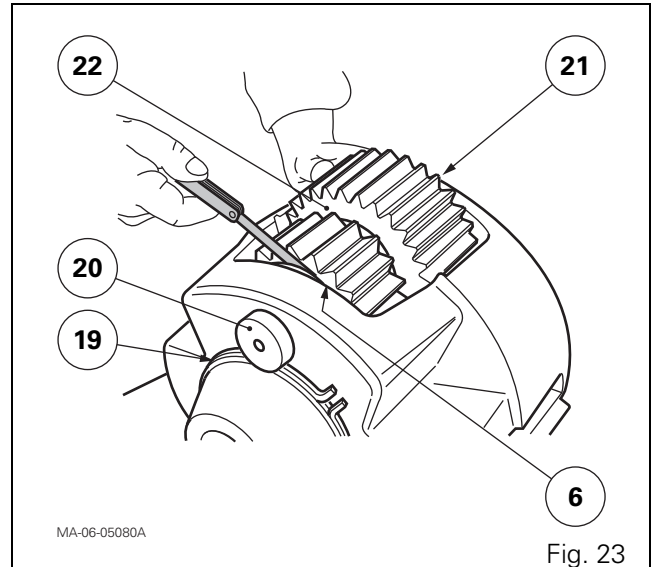
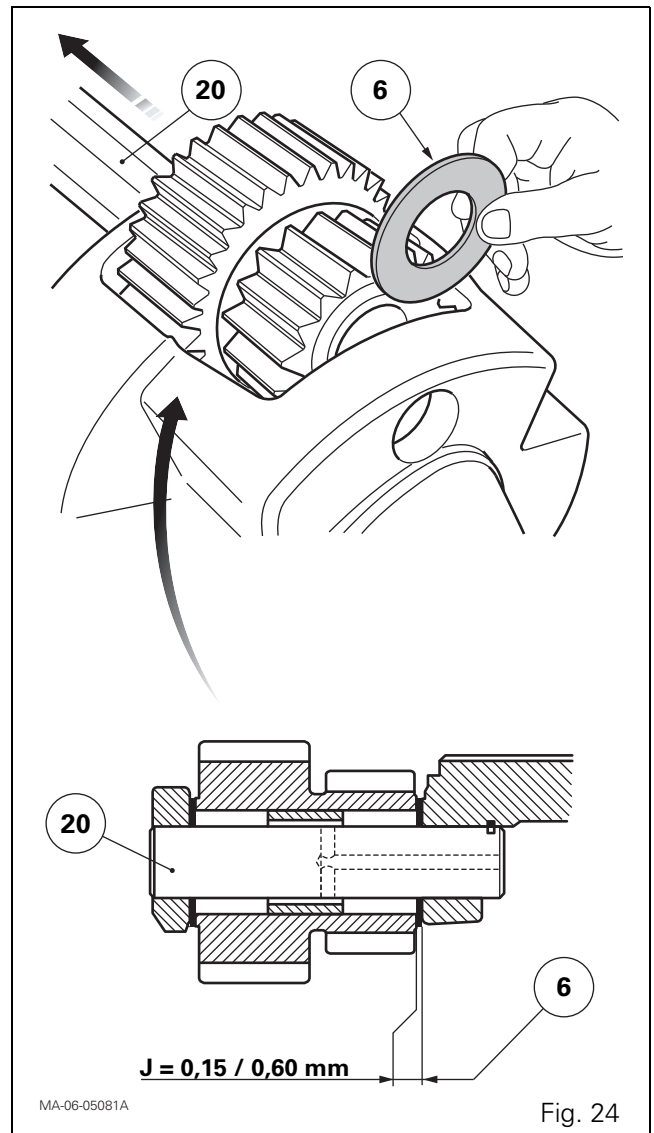

Fig. 23
Fig. 24
69. Fit (Fig. 23):
- the planet gears (22) in the planet carrier, turning the 17 teeth pinion towards the circlip (19);
- the washers (21) against the 29 teeth pinion;
- the temporary medium thickness shims (6) against the 17 teeth pinion.
70. Engage the three pins (20) in the planet gears, turning the lubricating holes towards the circlip (19) (Fig. 23);
Shimming (Fig. 23, Fig. 24)
72. Take out the pins (20) slightly.
Position the previously selected shims (6) according to Fig. 24.